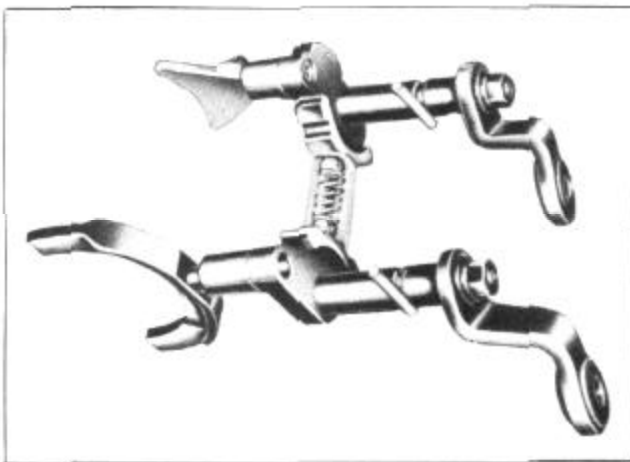

FIGURE 41
2. Insert interlock sleeve in case and install within interlock in the following order: one of the interlock balls, interlock spring and interlock pin with ball resting in neutral groove of shift shaft cam, Figure 41.